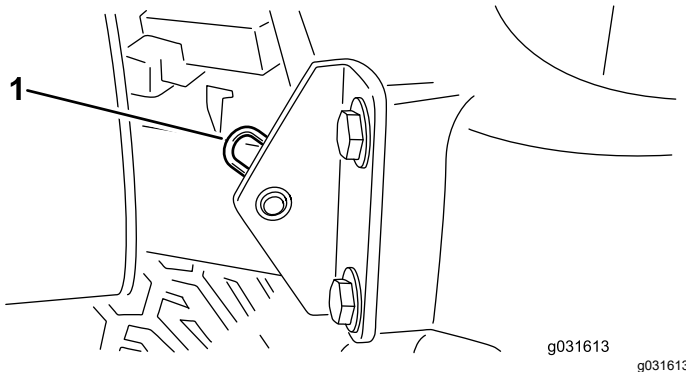

Figure 32
2. Remove the hairpin cotter securing the hood pivot to the mounting brackets (Figure 32).